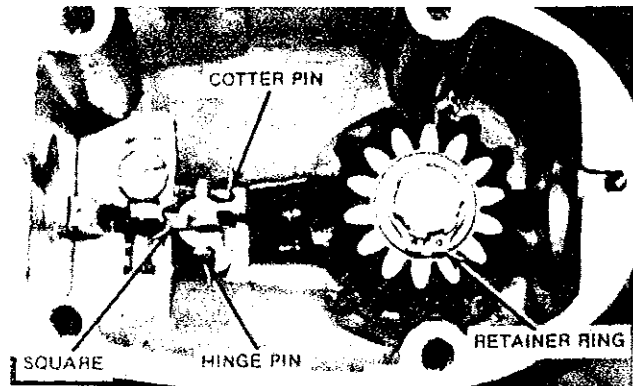

Figure 7. Remove gear retainer ring.
- O. Remove retainer ring securing pinion gear and remove gear (Figure 7).
- R. Remove cotter pin and shift rod pin shown in Figure 7.
- C. Install fork lever, fork lever hinge pin and slotted screw so square slot of fork lever will point towards dog clutch (Figure 7).